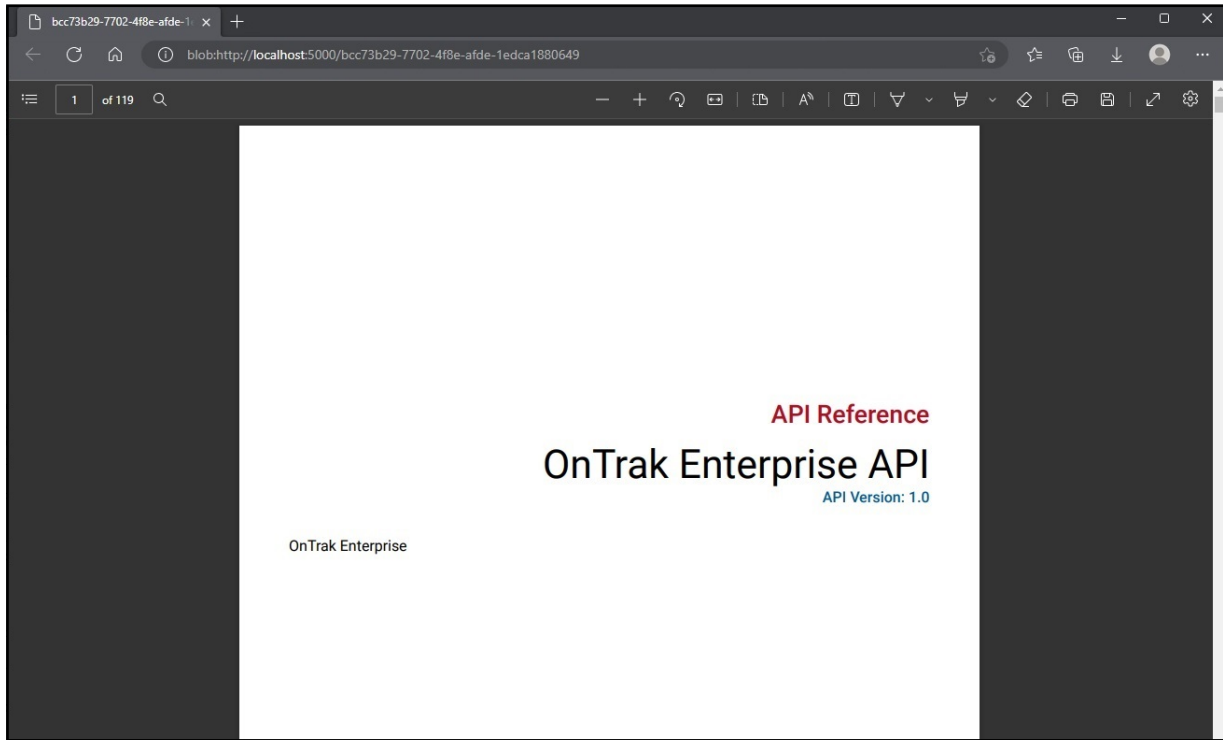

Figure 13-5. API Document Opened In Internet Browser
5. Review the API documentation (see Figure 13-5 on page 164).